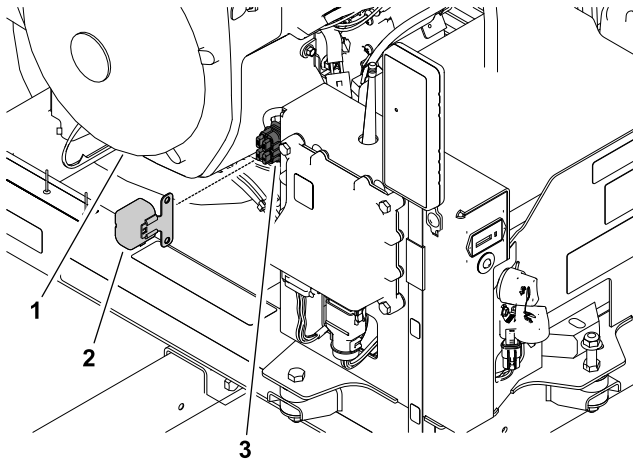

Figure 42
1. At the front, inboard side of the control tower, remove the fuse-block cover from the fuse block (Figure 42).
A fuse block is part into the machine wire harness. It is located behind the receiver on the right side of the control tower (Figure 42).